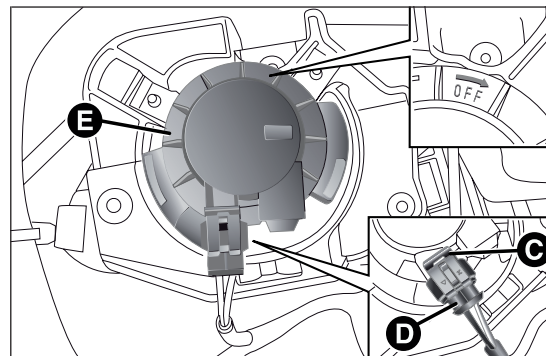

fig. 136
- adjust the catch C fig. 136 and disconnect the electrical connector D;